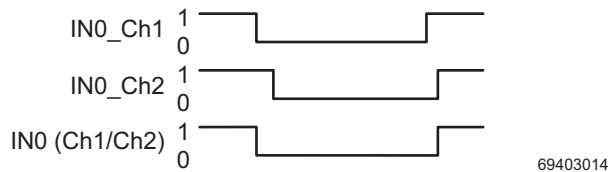
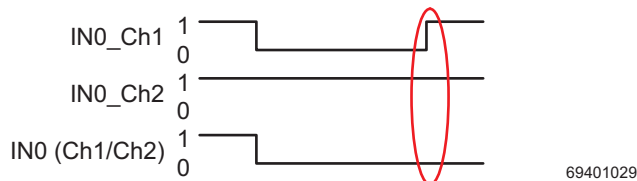

Figure 7-5 **Correct** signal change
Figure 7-6 **Error** during signal change
In Figure 7-6, the condition that both signals must be in state “0” before the change in state from “0” to “1” is not met. In this case, diagnostic message 018x_{hex} is generated.
Key for Figure 7-5 and Figure 7-6
- A “1” is transmitted if a “1” signal is present at both inputs **and** no error has been detected and the conditions are met for a change in state according to Figure 7-6.